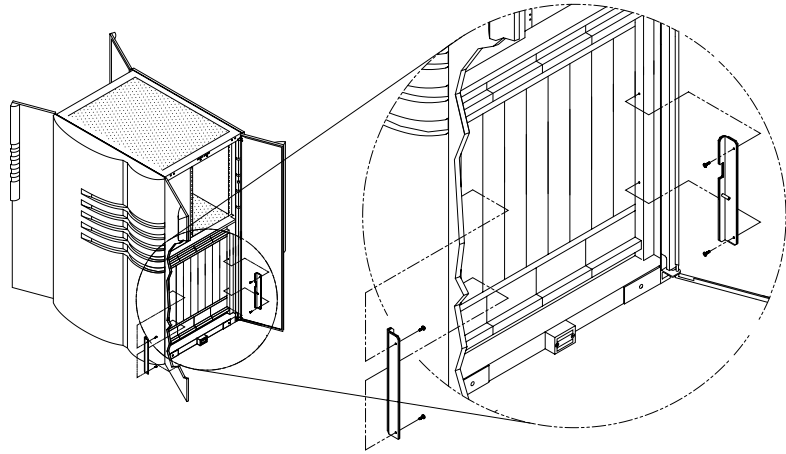

FIGURE 5-3 Installing the Right and Left Side Brackets
- 4. Install the right and left side brackets (P/N 340-4349-01 and 340-4350-01) as shown in FIGURE 5-3.**